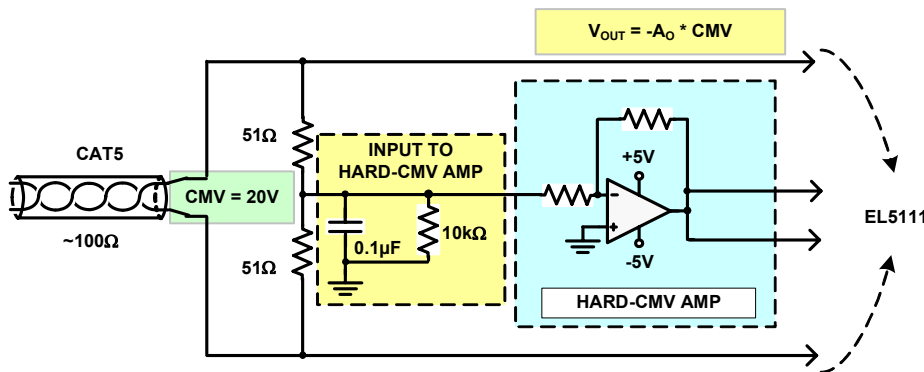

FIGURE 7. CMV ACTIVE CANCELING TO ±20V OPTION
**±20V CMV Compensation** - You can reach up to ±20V CMV by adding an active cancellation at the input to the diff-amp. This design does not reduce any input signal or add any noise to the input. The Hard-CMV cancellation amp simply takes a portion of the input Hard-CMV, inverts the level and drives cancellation resistors to both inputs to the differential input of the EL5111 thus, cancel out the incoming Hard-CMV (Figure 7).